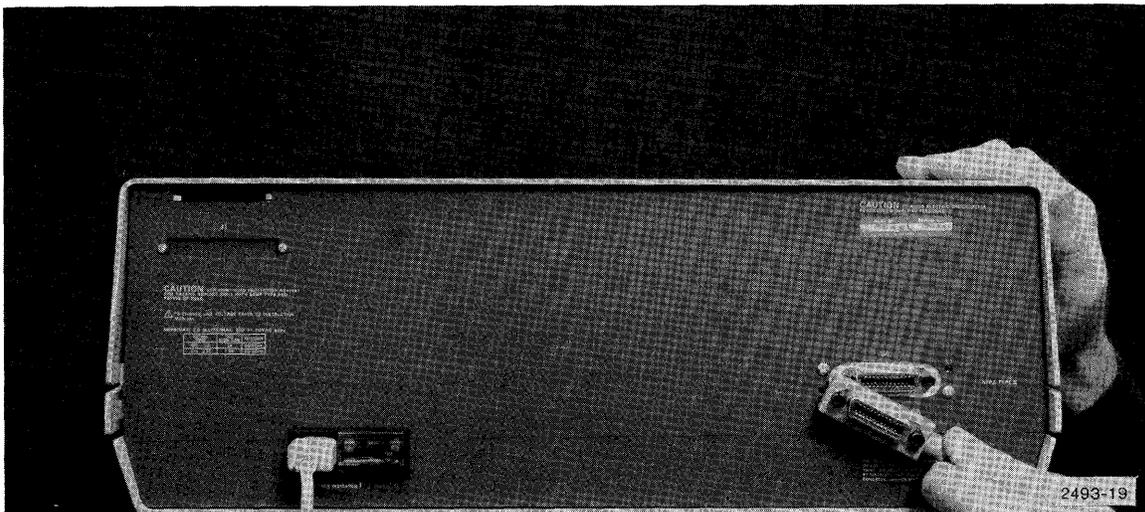

Figure 3-16. Connecting GPIB cable to rear of main 4907 cabinet.
2. Connect the GPIB cable from the rear of the 4051 to the rear of the main 4907 cabinet (Figure 3-16). Use attached screws to secure the connector. If another GPIB cable is already attached, attach the new cable connector over the top of the current cable connector.